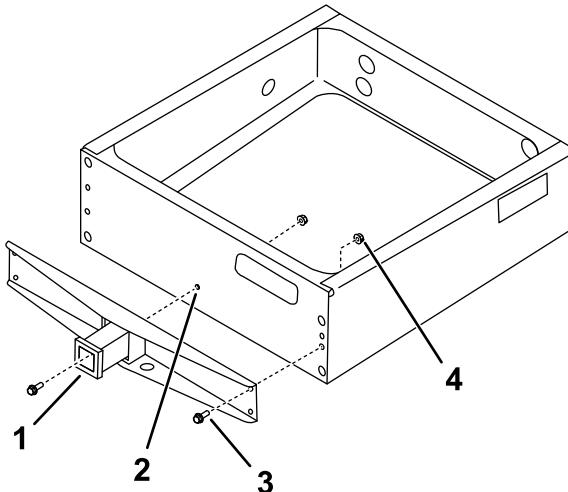

Figure 1
2. Attach the receiver hitch to the rear frame with 4 flange-head bolts and flange nuts (Figure 1).